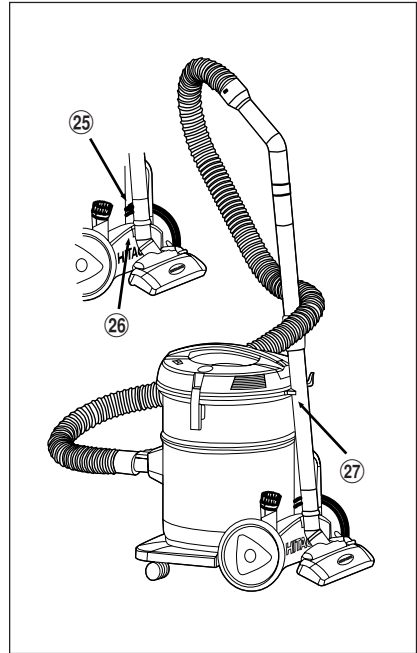

Fig. 17 Storing the vacuum cleaner
1. Slide the nozzle hook (25) of the rug and floor tool into the hook supporter (26) at the rear of the dolly.
2. Coil the hose around the extension pipe to make it compact and stable and rest the extension pipe on the pipe rest (27) as shown in Fig. 17.